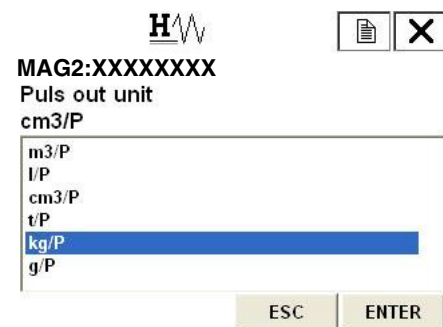

Figure 88.
Figure 88 is then displayed.
2. Once the display as shown in Figure 88 appears, move the arrow key up or down to select pulse scale unit. After making a selection, press F4 (ENTER). If F3 (ESC) is pressed here, the selection is canceled and the display returns to the Pulse output menu.